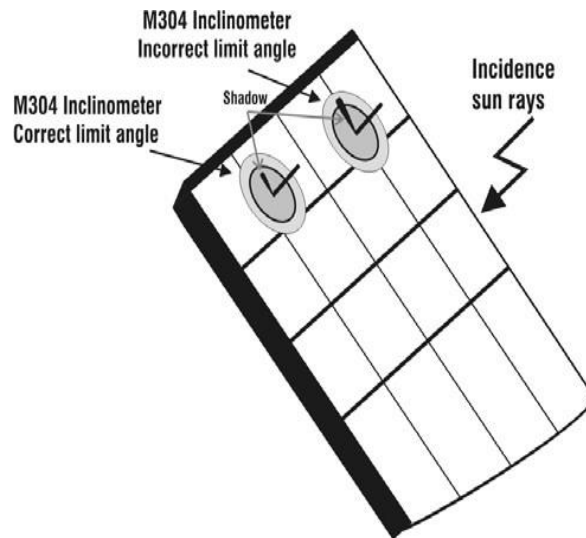

Fig. 7: Positioning the inclinometer M304
9. Mount the rod onto the disc of the optional accessory M304 and keep it in touch with the module's surface. **Make sure that the shadow cast by the rod onto the disc falls within the "limit internal circle" on the disc itself (see Fig. 7).** If this is not the case, the incidence angle between the sun rays and the module surface is too high and, therefore, the measurements carried out by the instrument CANNOT be considered reliable. Repeat the same operations at another daytime.